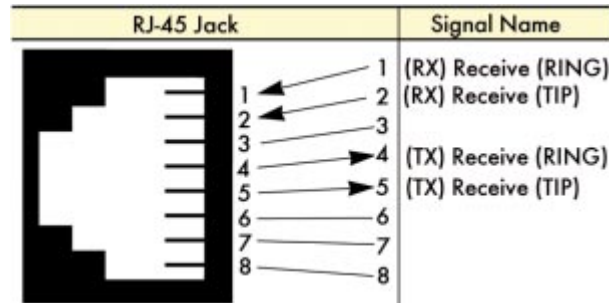

Figure 12. T1/E1 RJ-48C pinout diagram
1. Refer to figure 12 for the T1/E1 RJ-48C pinout diagram.